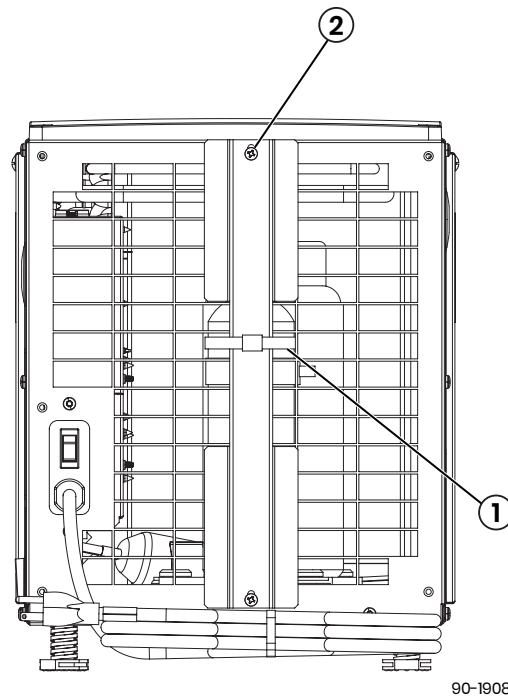

Figure 8: Preparing the Unit for Installation
**IMPORTANT:** Cut the strap securing the compressor shipping support bracket and remove the strap and shipping bracket. *See Figure 8.*